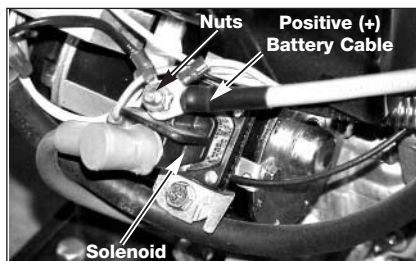

Figure 5
5. Remove the nut from the solenoid post and place one end of the positive (red) battery cable onto the post. Reassemble nut and tighten securely. See Figures 5.